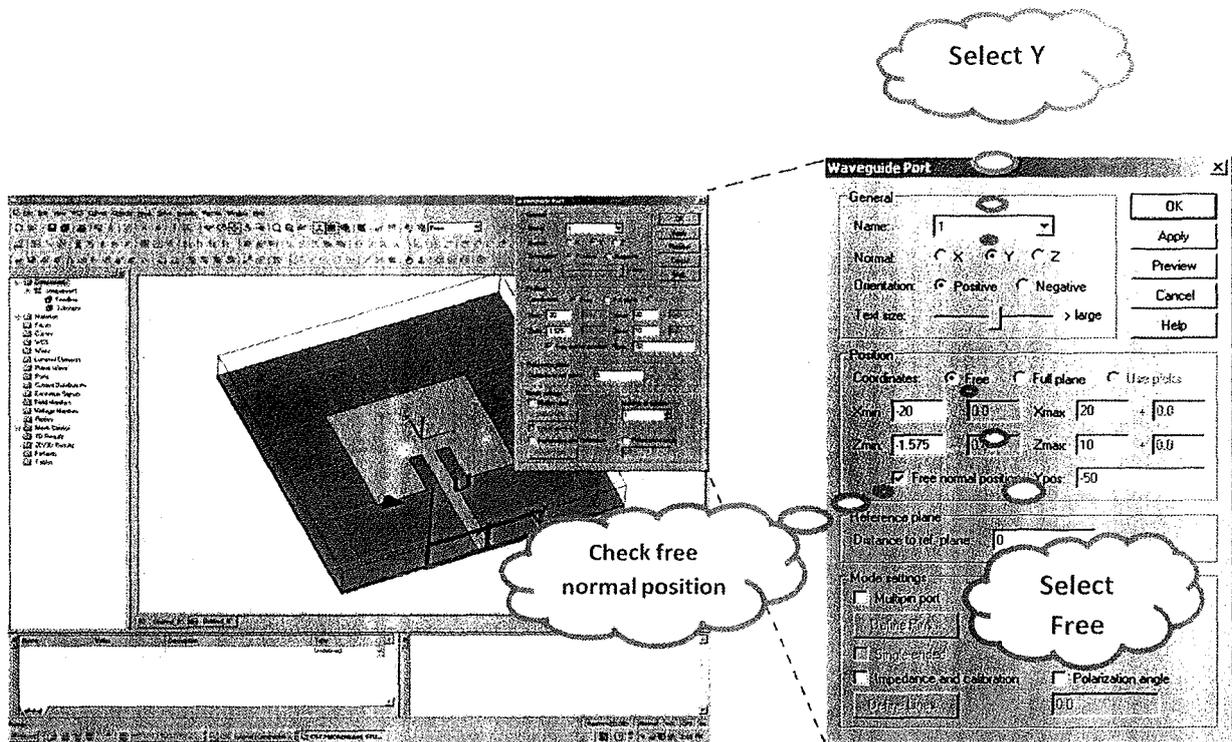

Fig.18 Definition of the wave port
- Check “free normal position” in position box and change *Ypos* to be *-50* as shown in Fig.18